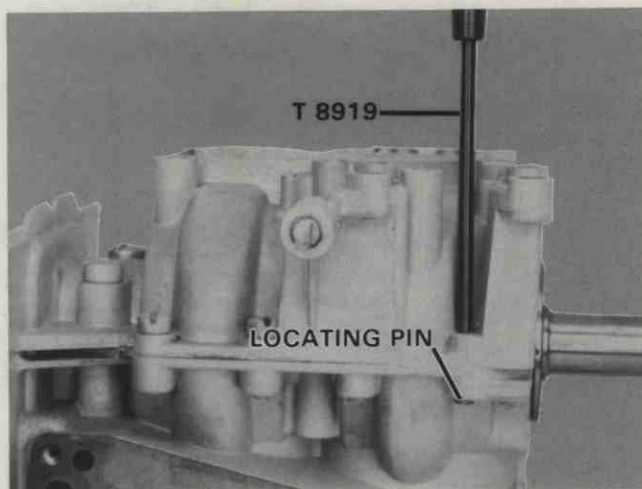

Figure 34. Installing Locating Pins.
- C. Place crankcase cover on cylinder. Position crankcase by driving in two (2) locating pins, using Special Tool No. T 8919, Figure 34.